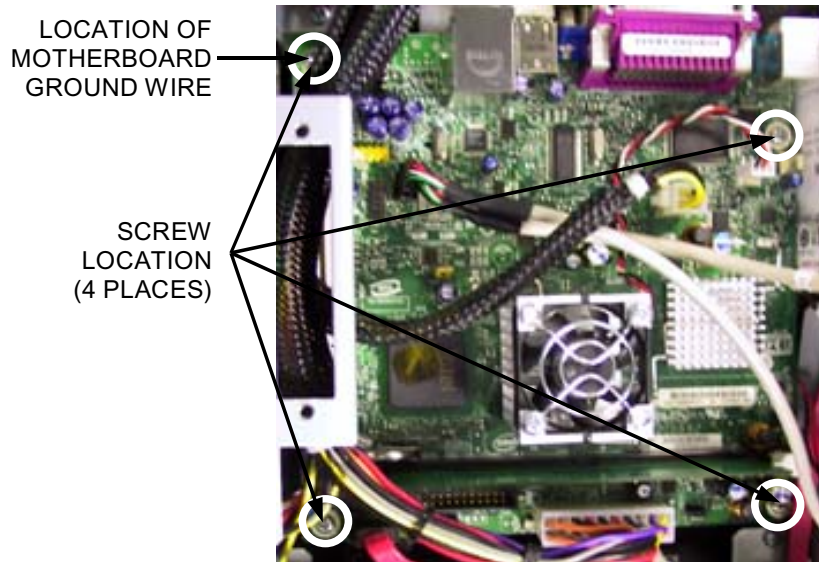

FIGURE 2 - LOCATION OF FOUR SCREWS SECURING RX MOTHERBOARD
44. Tighten the screw securing the bottom of the door (Figure 2), then turn the wing on the draw latch clockwise to engage the latch (see Figure 1).
4. Remove all motherboard connections, noting their positions, and unscrew the motherboard in 4 places, noting the location of the motherboard ground wire (see Figure 2).
1. Slide the new motherboard into the system, making sure the screw holes on the motherboard line up with the mating holes on the bottom of the chassis. Secure the motherboard in place with 4 screws, resealing the motherboard ground wire in the process (see Figure 2).